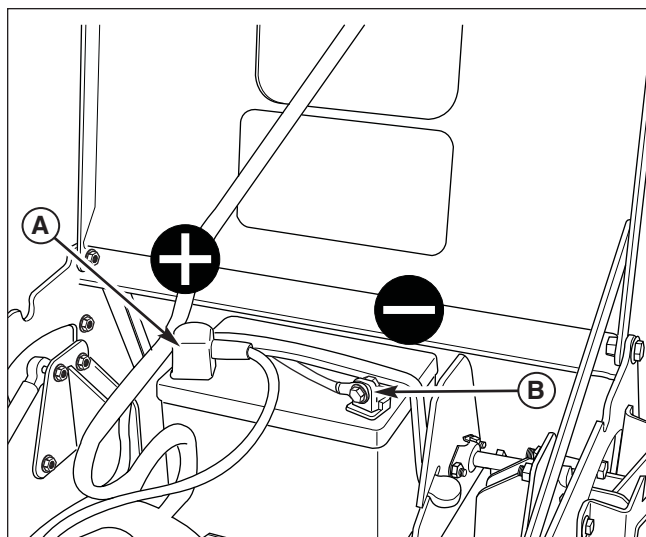

Figure 44. Battery Compartment
1. Disconnect the cables from the battery, negative (black) cable first (B, Figure 44).
3. Reinstall the battery and reattach the battery cables, positive (red) cable first (A).